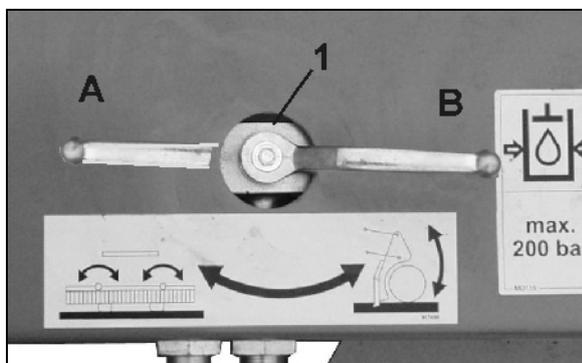

Fig. 116
2. DMC 602: Move the stop tap (Fig. 116/1) to position **A**
4. Move the stop tap (Fig. 116/1) to position **B**.
- Keep the ball valve (Fig. 116/1) to position **B**.